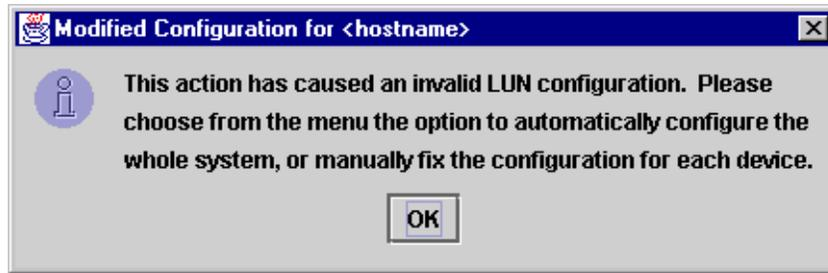

Figure 39. Modified Configuration for <hostname> window
- Click **Set Unconfigured** to set this path as not visible to the operating system. The path is not used in failover conditions. If setting the path has caused the LUNs associated with this device to have an invalid configuration, an error message is displayed (see Figure 39 on page 48).